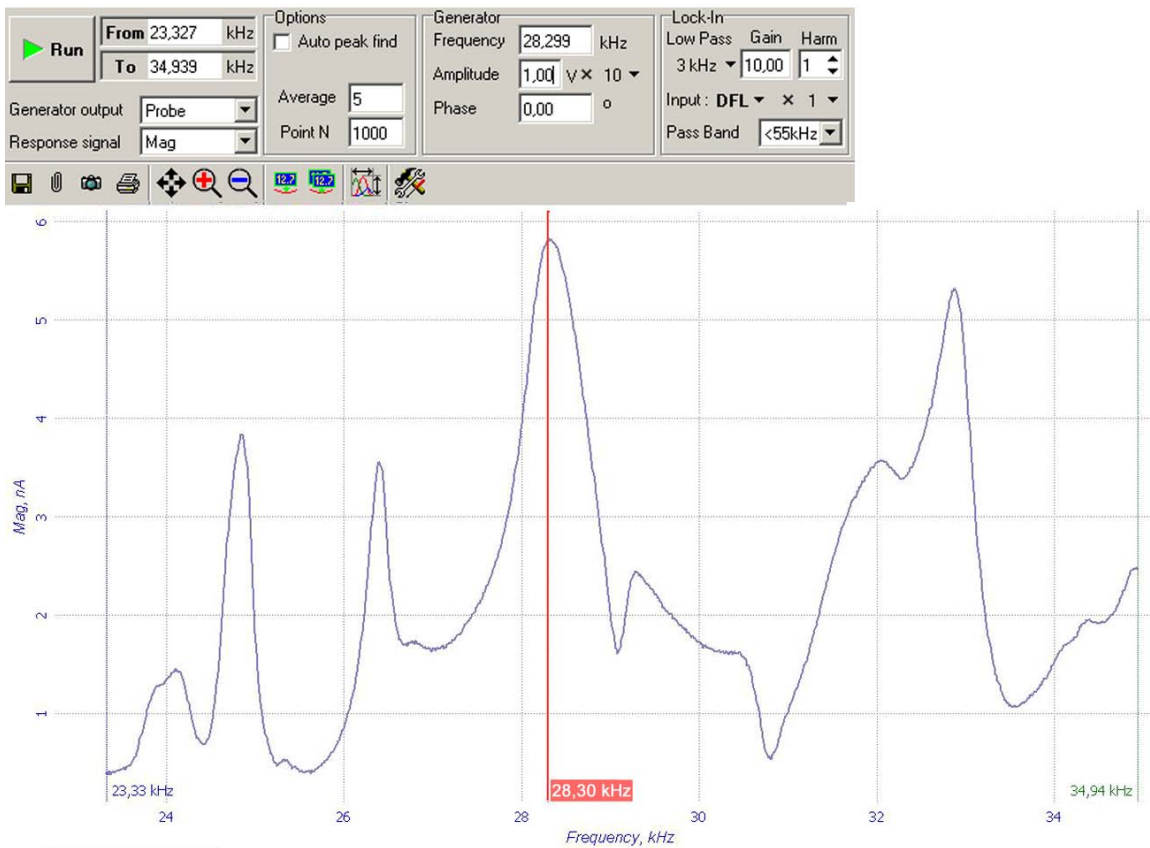

Fig. 3-16
- a. In **Frequency** parameter text box on **Generator** panel enter the value corresponding to the maximum of the selected peak. At this a marker will appear on the plot (see Fig. 3-16);